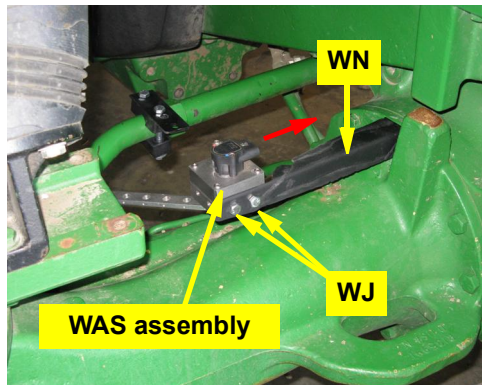

Figure 2c: Installed WAS assembly
- c. Attach the WAS assembly to the bracket **WN** using the provided hardware **WJ** as shown. Make sure the WAS connector is pointing inwards (Figure 2c).